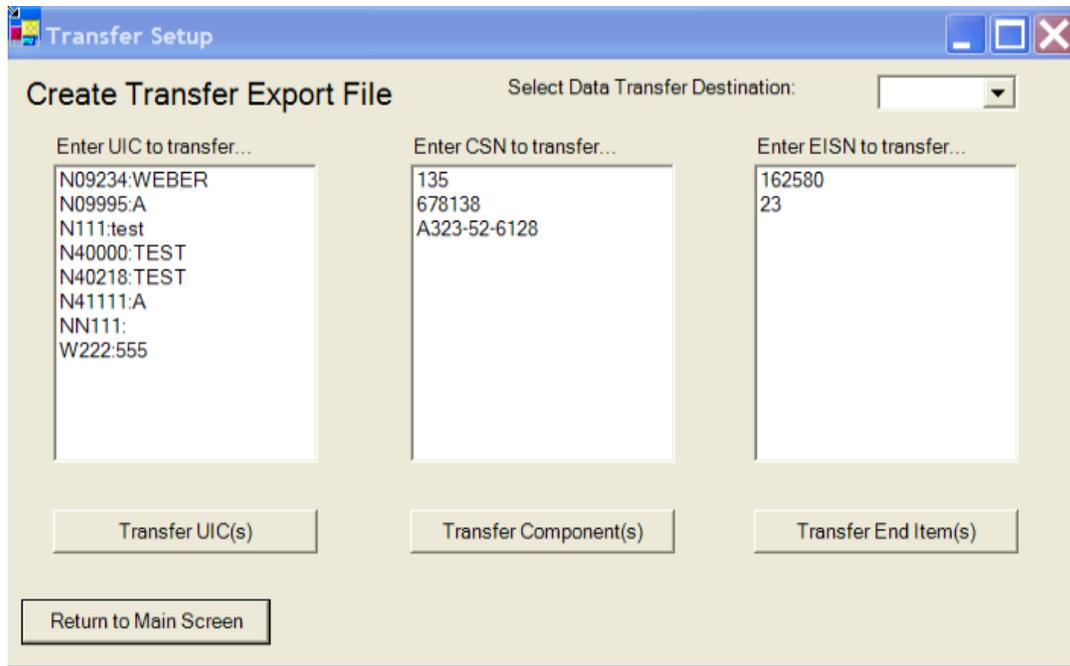

Figure 62. Transfer Setup
(2). Press transfer by UIC/Component and the following screen will appear (Figure 62).